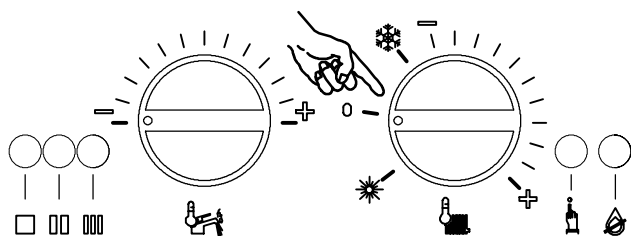

Fig. 60
- 1 Set the function selector of the boiler in stand – by mode (Fig. 60).